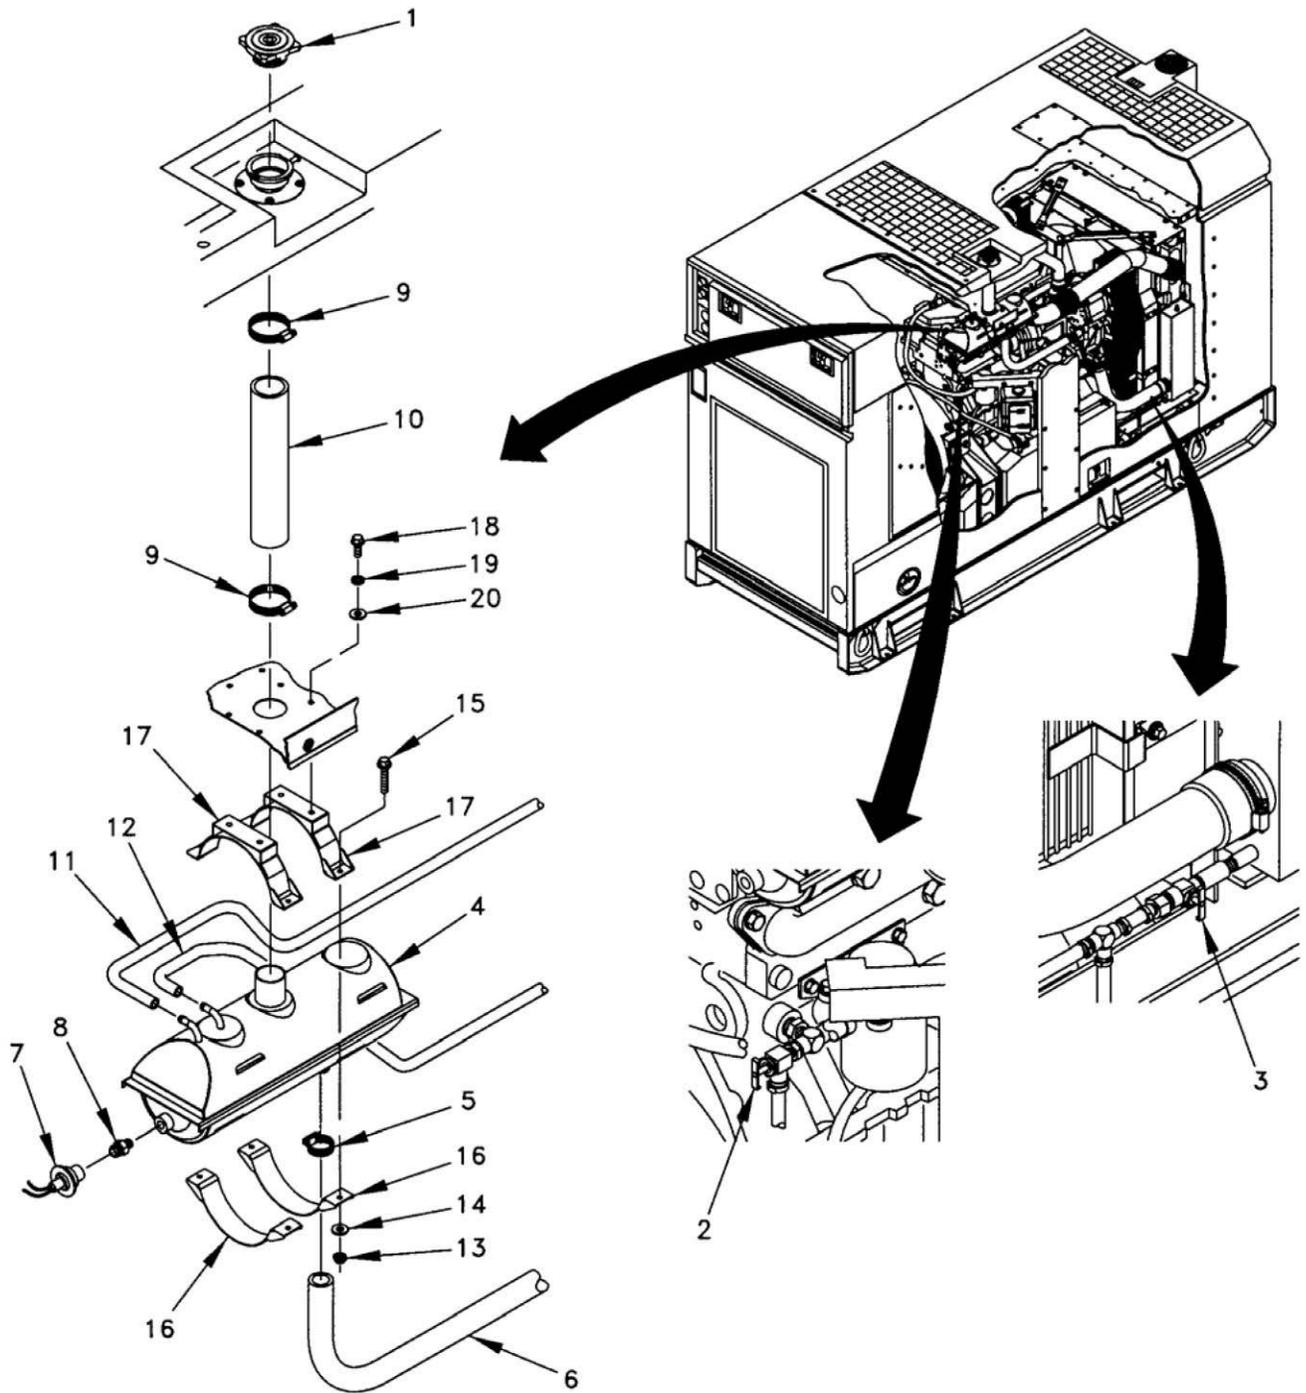

Figure 1. Surge Tank.
6. Remove hose clamp (Figure 1, Item 5) and disconnect hose (Figure 1, Item 6) from bottom of surge tank (Figure 1, Item 4).
7. Remove coolant level sensor (Figure 1, Item 7) and reducer fitting (Figure 1, Item 8) from surge tank (Figure 1, Item 4).
8. Loosen two hose clamps (Figure 1, Item 9) and disconnect water hose (Figure 1, Item 10) from top of surge tank (Figure 1, Item 4).
9. Loosen two hose clamps and tag and disconnect two hoses (Figure 1, Item 11) and (Figure 1, Item 12) from top of surge tank (Figure 1, Item 4).
10. Remove four locknuts (Figure 1, Item 13), washers (Figure 1, Item 14), and screws (Figure 1, Item 15), and remove two lower surge tank brackets (Figure 1, Item 16) and surge tank (Figure 1, Item 4) from two upper surge tank brackets (Figure 1, Item 17).
11. Remove four screws (Figure 1, Item 18), lock washers (Figure 1, Item 19), and washers (Figure 1, Item 20), and remove two upper surge tank brackets (Figure 1, Item 17).
1. Install two upper surge tank brackets (Figure 1, Item 17) and secure with four washers (Figure 1, Item 20), lock washers (Figure 1, Item 19), and screws (Figure 1, Item 18).
2. Install surge tank (Figure 1, Item 4) and two lower surge tank brackets (Figure 1, Item 16) and secure with four screws (Figure 1, Item 15), washers (Figure 1, Item 14), and locknuts (Figure 1, Item 13).
3. Remove tags and connect two hoses (Figure 1, Item 12) and (Figure 1, Item 11) to top of surge tank (Figure 1, Item 4).
4. Connect water hose (Figure 1, Item 10) to top of surge tank (Figure 1, Item 4) and tighten two hose clamps (Figure 1, Item 9).
5. Apply sealing compound to male threads of reducer fitting (Figure 1, Item 8) and coolant level sensor (Figure 1, Item 7) and install reducer and coolant level sensor on surge tank (Figure 1, Item 4).
6. Connect hose (Figure 1, Item 6) to bottom of surge tank (Figure 1, Item 4) and install hose clamp (Figure 1, Item 5).
7. Pour coolant into COOLANT FILL and install fill cap (Figure 1, Item 1). If necessary, add coolant so level is between HOT and COLD marks on coolant recovery system bottle.